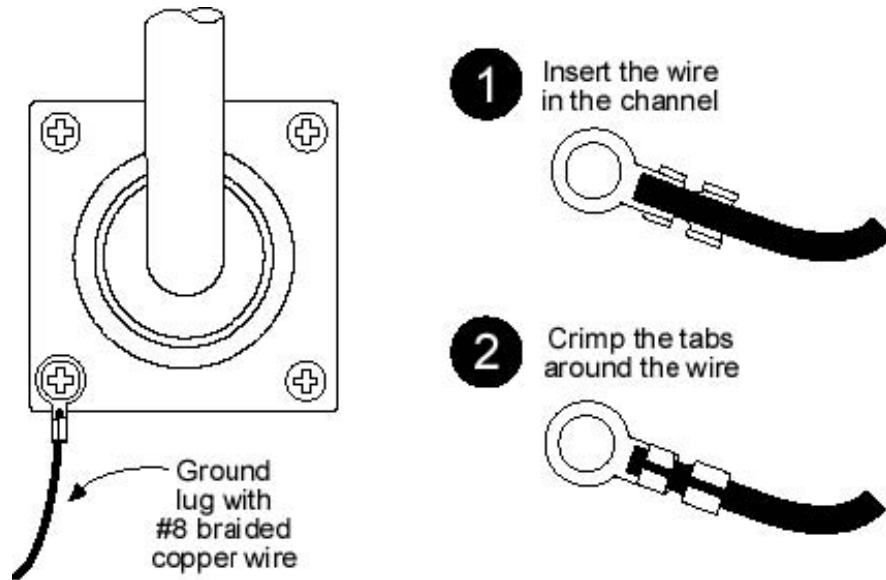

Figure 7-2 Mounting Pole with Ground Lug
- 2) Grounding the CAT5 cable to the wallbox as shown in Figure 7-2.
- 6) Attach the grounding wire to the clamp on the grounding rod, reference Figure 7-2. If necessary, use wire staples to secure the grounding wire to the outside wall.